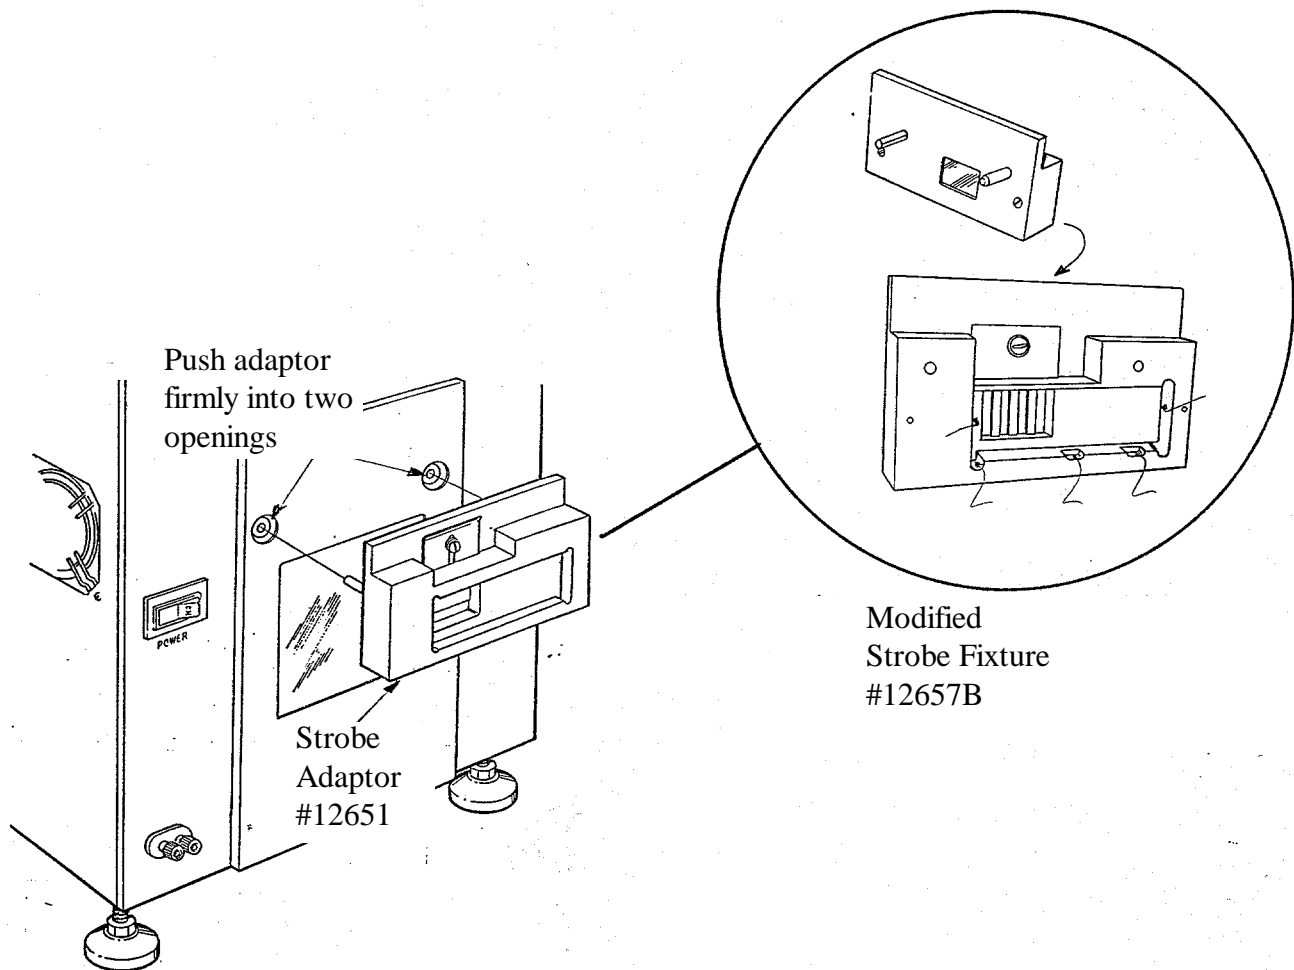

Fig. 2 Installing modified Strobe Fixture 12657B
2. Insert a modified strobe fixture #12657B (see inset, Fig. 2) into two openings on the tester (Fig. 2). (For details of this modified fixture, see Product Alert 600AM #92-30, dated 7/31/92.) Be certain the fixture is fully seated.